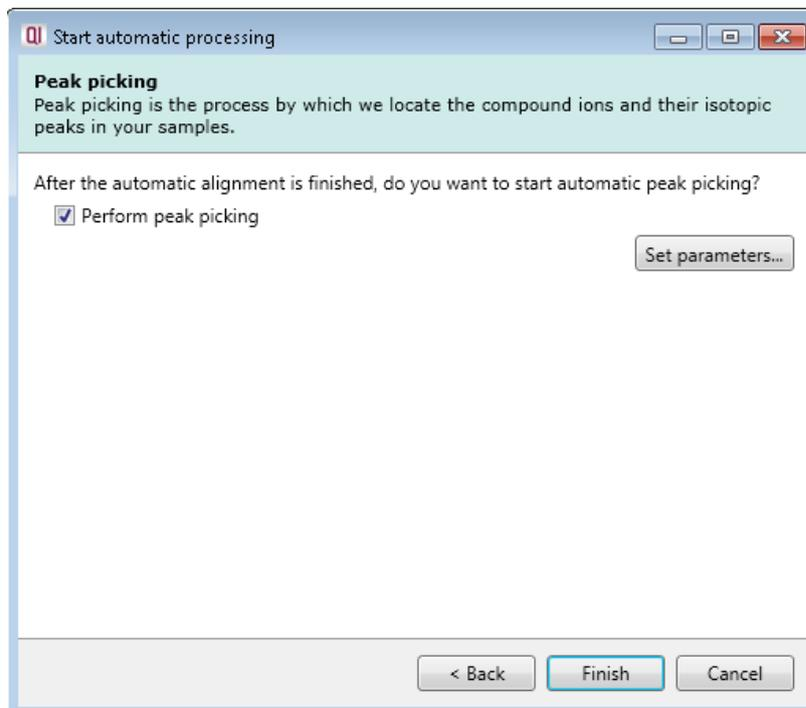
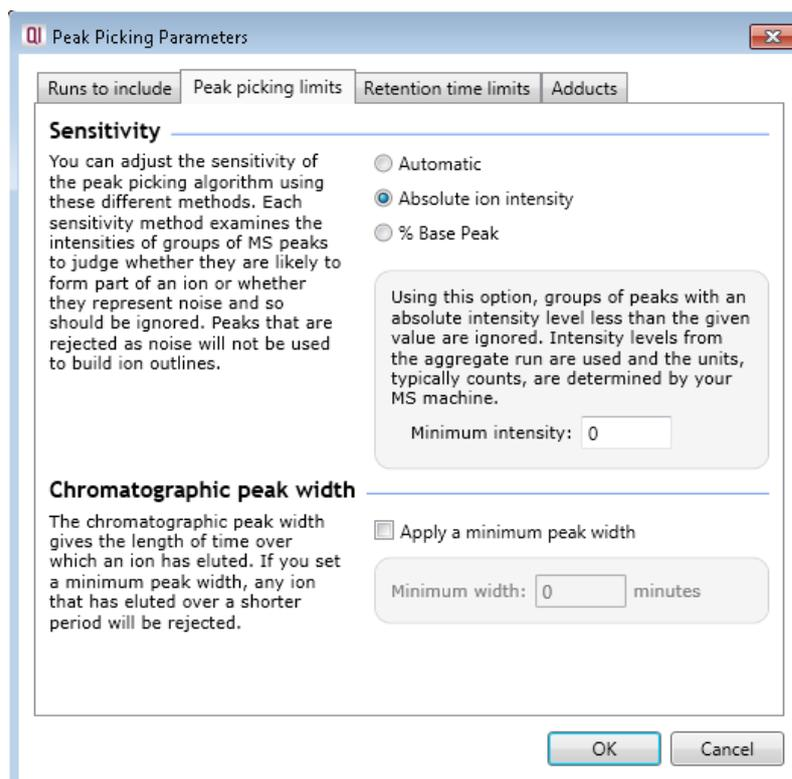

Figure 9: The Peak picking selection screen. The parameters are already optimised for this workflow but can be seen using Set parameters.
Figure 10: The ready-optimised parameters for peak picking; **Absolute ion intensity** is used for the sensitivity setting, with a minimum intensity of zero.
5. **Peak picking** will be displayed. This should be carried out, and so the box should remain checked. The parameters can be adjusted, but should not be, as they are already optimised for Direct Sample Analysis detection (Figure 9 and Figure 10).